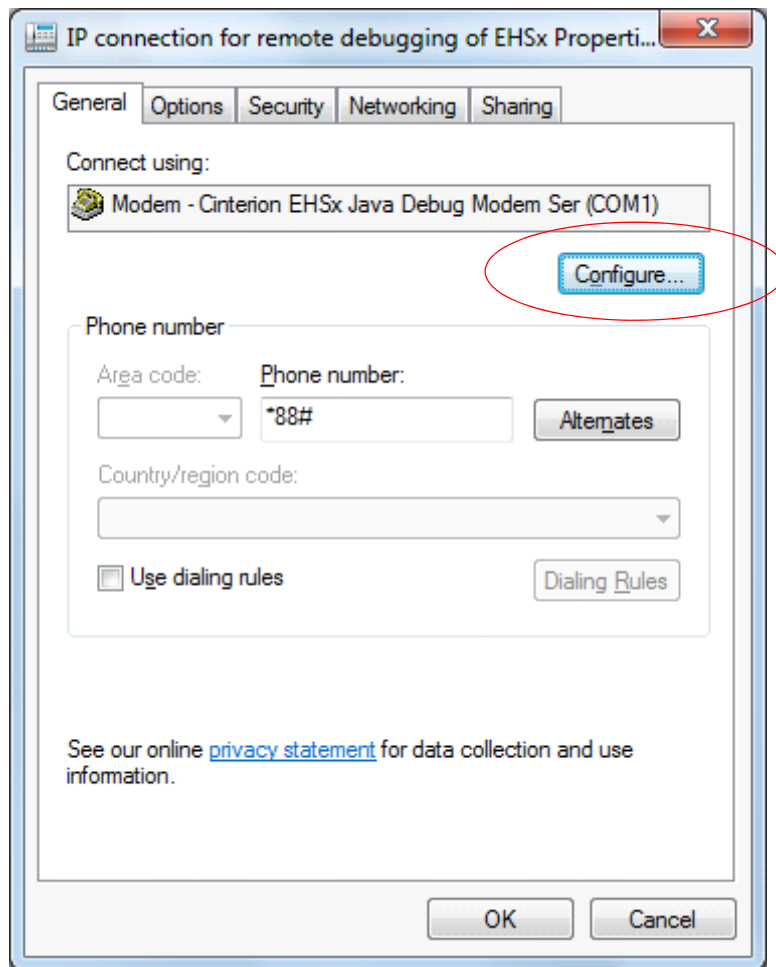
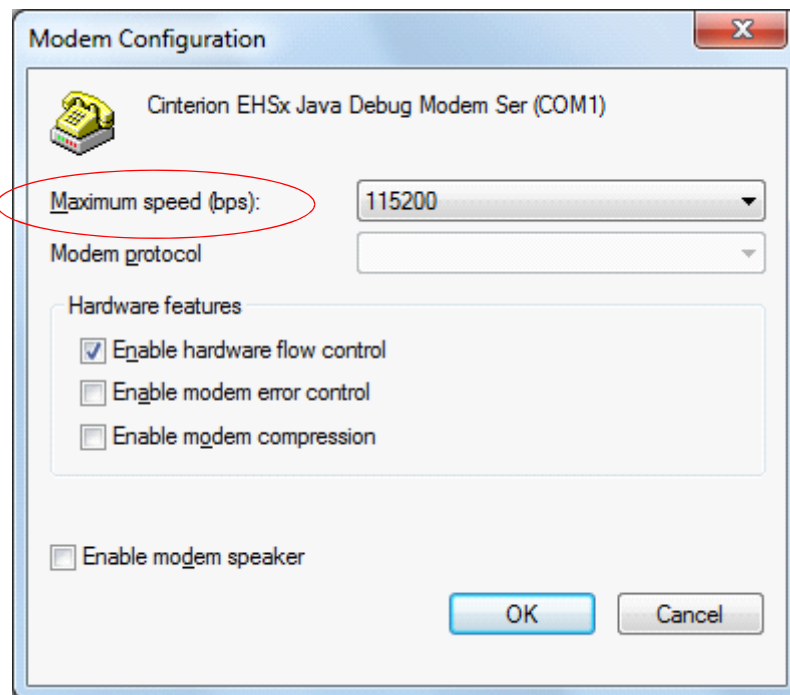

Figure 20: Configure debug connection
Figure 21: Specify baud rate for debug connection
- Then the baud rate used by the debug connection "IP connection for remote debugging of EHSx" must be set to exactly the same value. The properties of the debug connection are available via the Windows network connection settings (see Figure 20 and Figure 21).